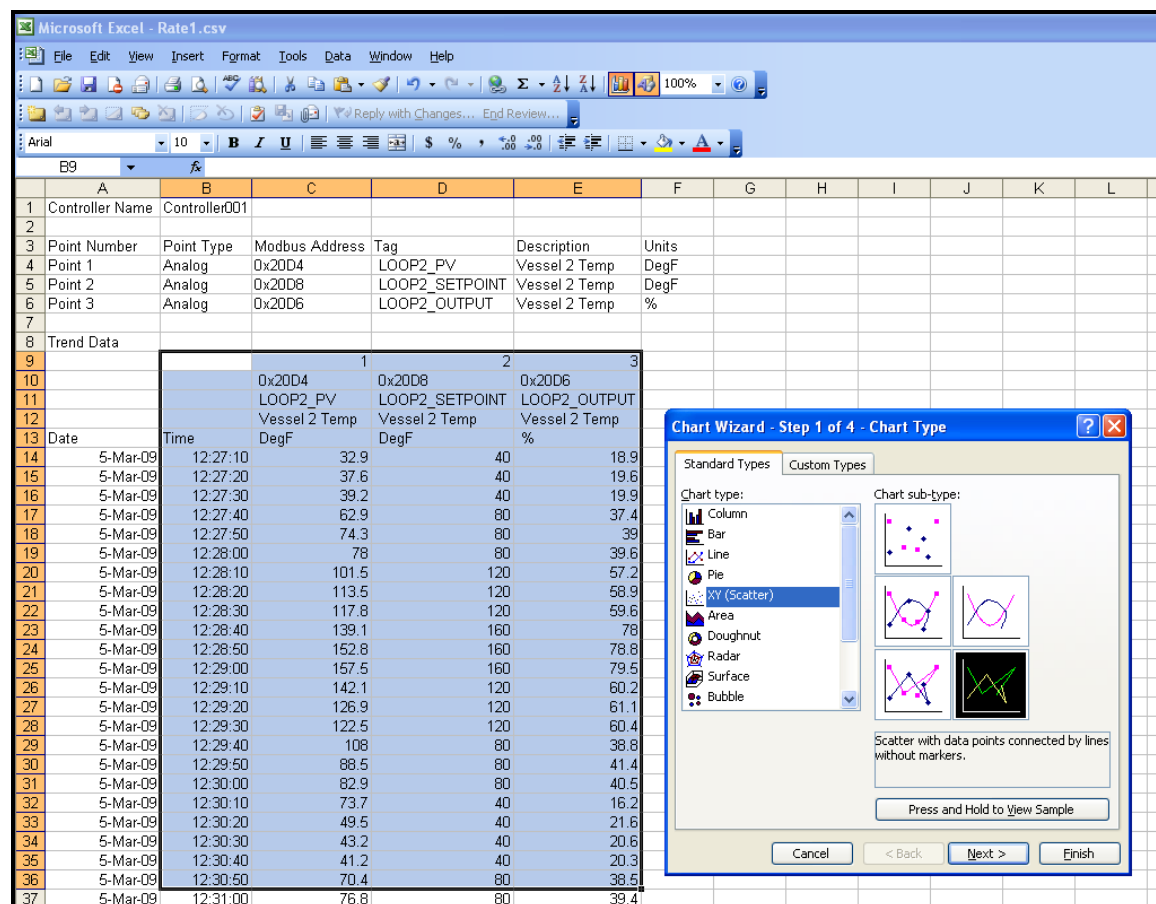

Figure 10-1 Displaying Data using Excel
2. On the Chart Wizard, select Chart type XY Scatter. This selection will preserve the scaling on the time axis (the X axis) in the case where there are variations in the sample time. For the Chart sub-type, the selection shown in Figure 10-1 (direct line connection without smoothing) gives an exact representation of the data in the spreadsheet.